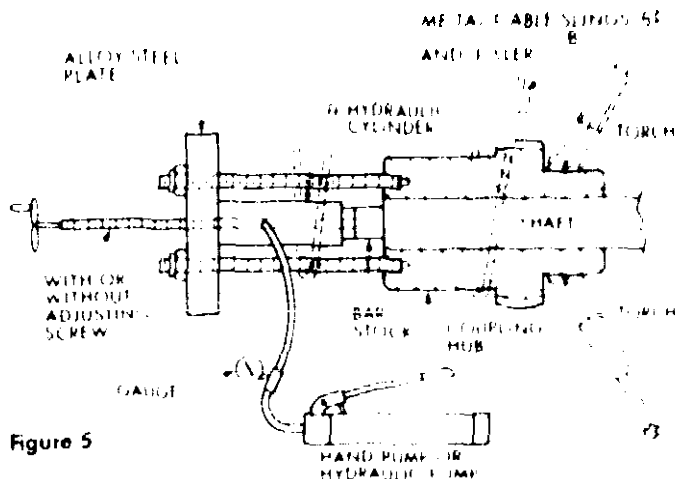

Figure 5
- 4 Drill and tap the face of the coupling hub for the puller leg thread size, as shown in Figure 5.